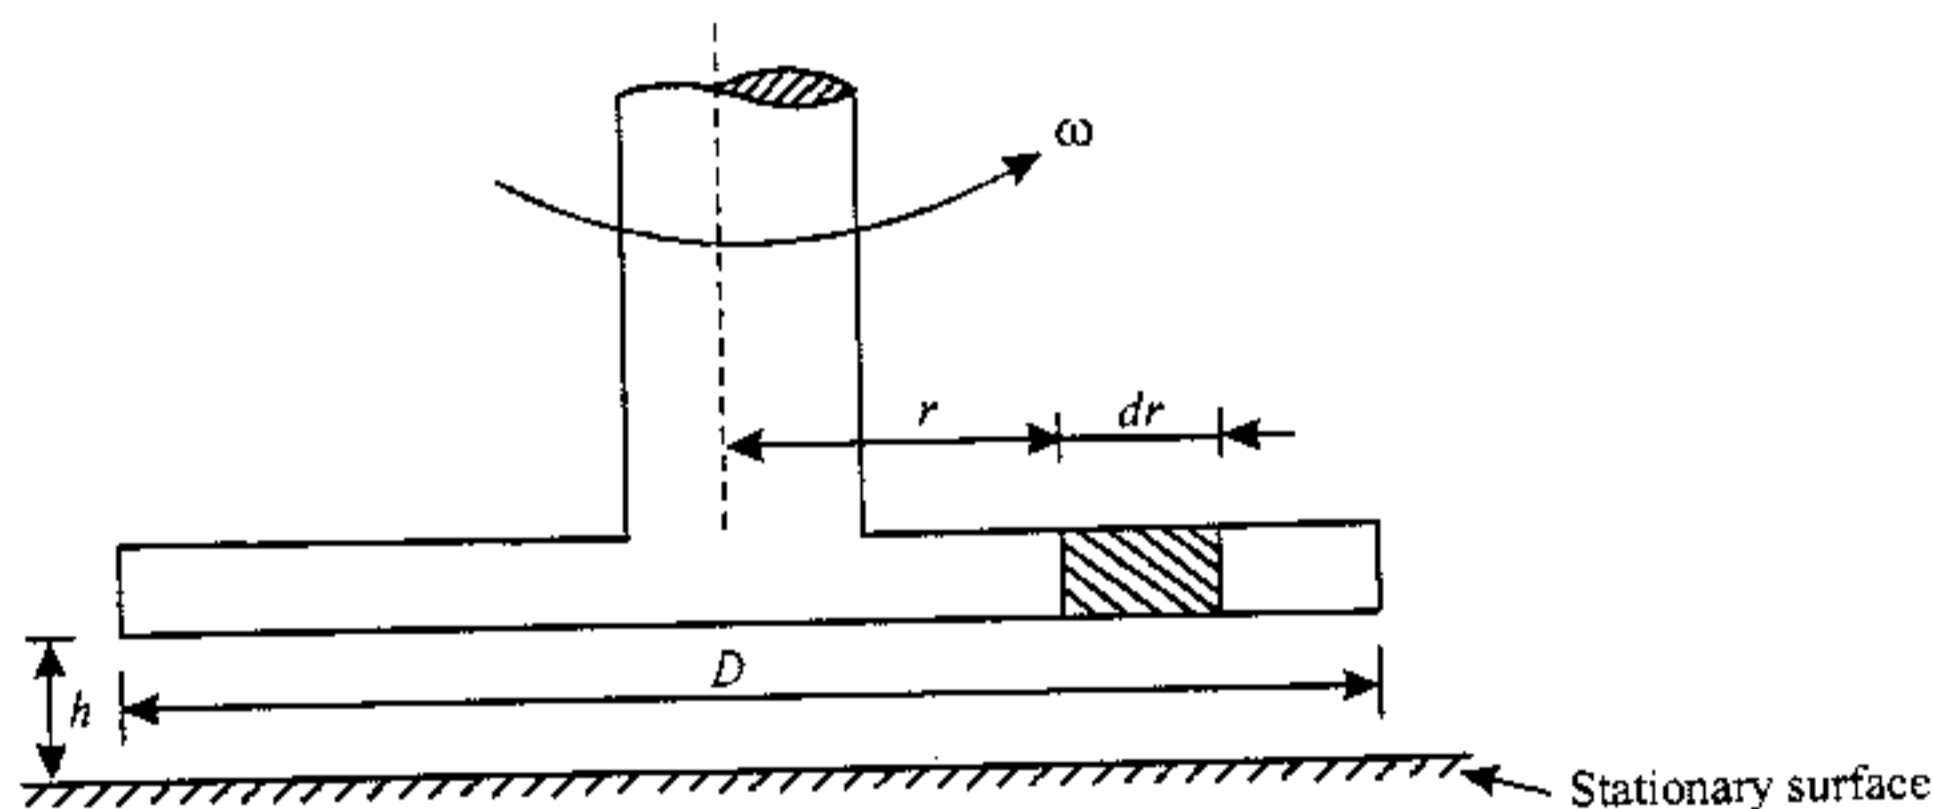

Fig.1.9
**Solution.** The arrangement is shown in Fig. 1.9.